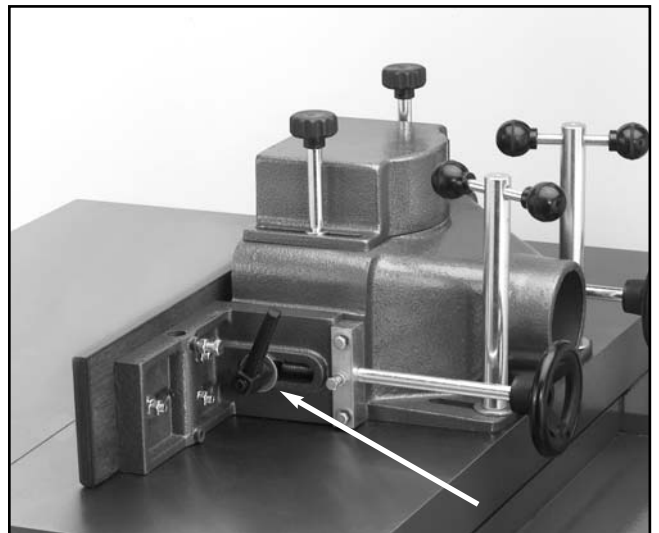

Figure 36. Location of fence locking handles.
1. Loosen the locking handles shown in **Figure 36** that hold the fences in place.